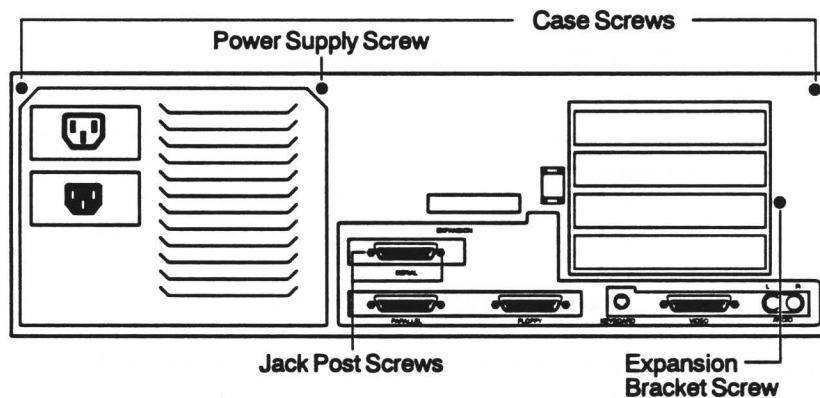

Figure 4-3. Jack Post and Expansion Bracket Screws Location
9. Remove the expansion bracket. Locate the expansion bracket screw in Figure 4-3. Remove the screw and the bracket.
3. Locate the power supply screw attaching the power supply to the system chassis in Figure 4-3 and remove the screw.